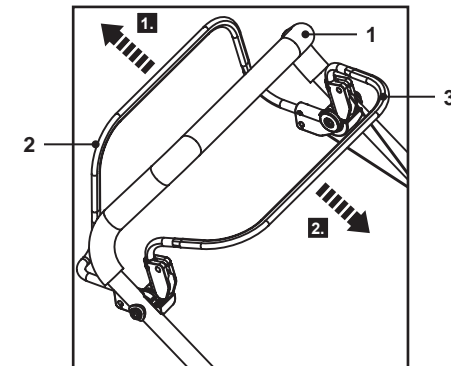

Fig. 22
1. Release the self-propelling lever (2) to stop the self-propelled function (Fig. 22 step 1).
2. Release the brake lever (3) to stop the engine and blade (Fig. 22, step 2).